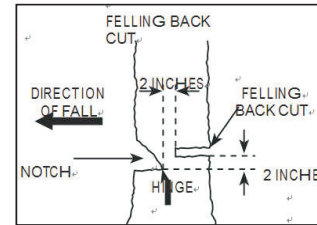

Fig.15
7.3.2 FELLING BACK CUT (FIG.15)